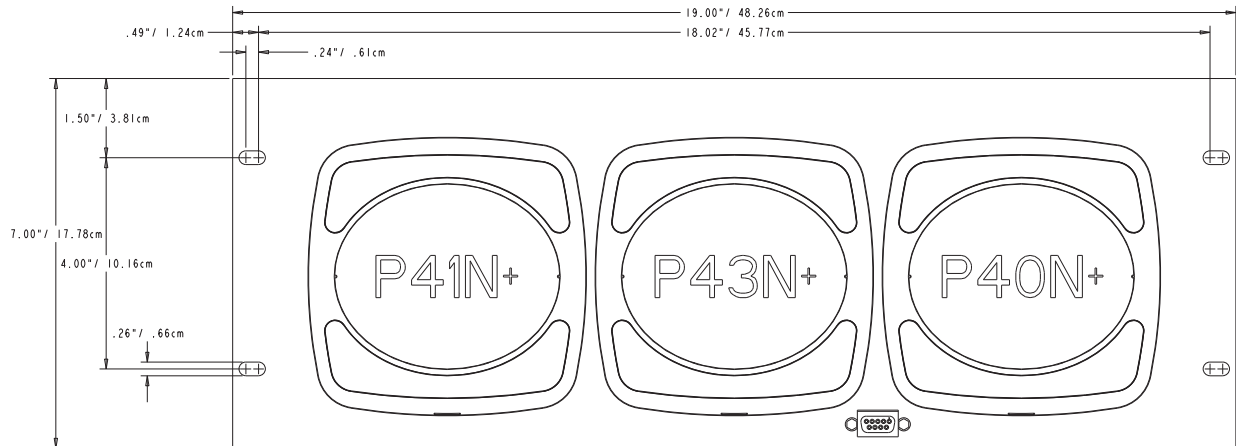

Figure 13.2: Rack Assembly Dimensions
1. Align the rack assembly's screw holes with the holes in the panel (see Figure 13.2.)